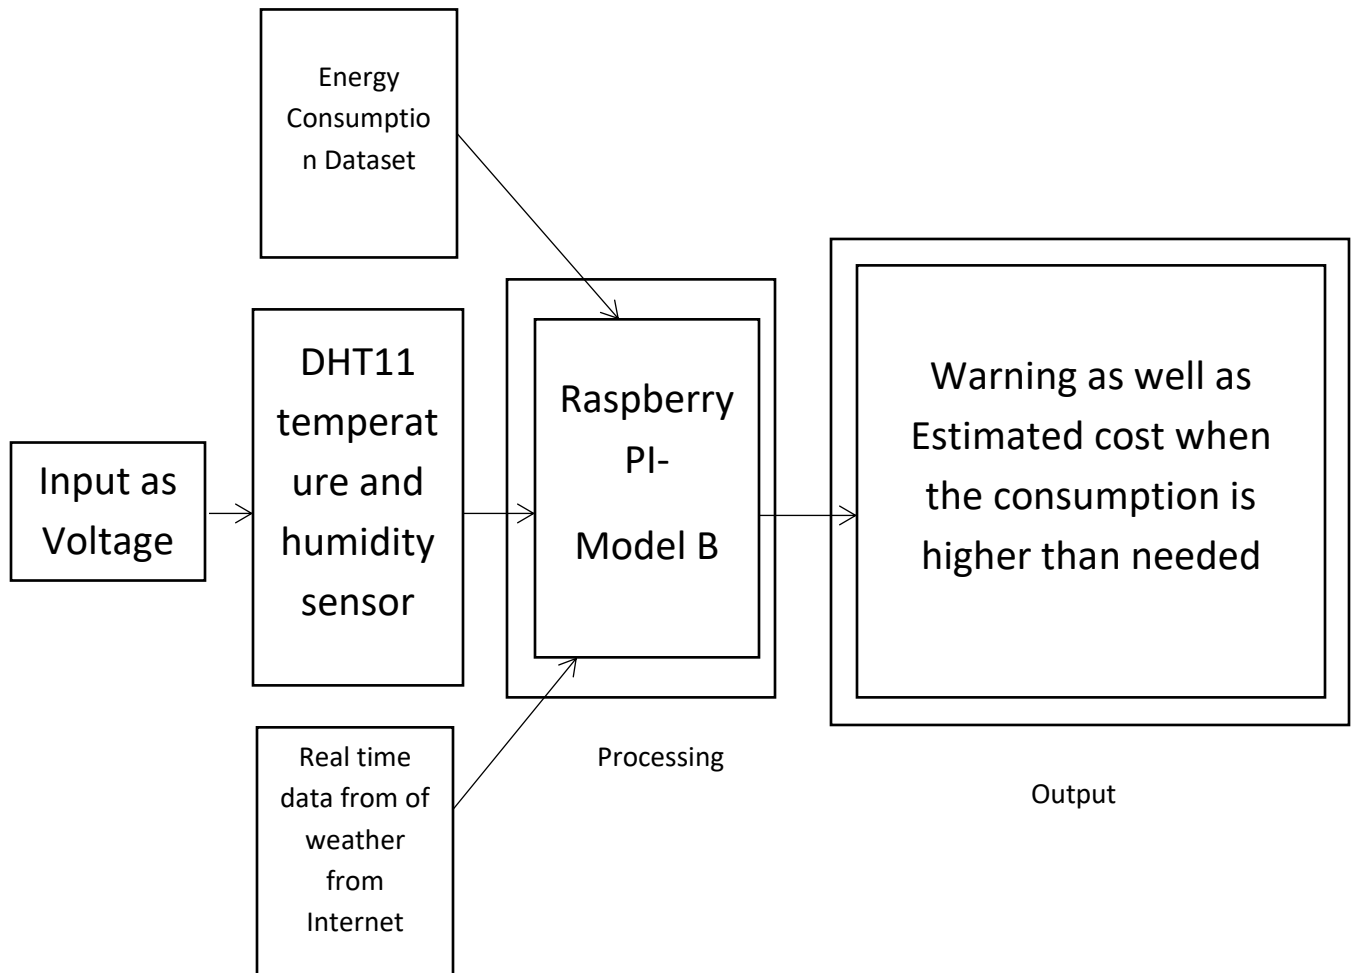

Figure 1: Block diagram of Intelligent Electricity Consumption Monitoring System
1. Figure 1: Block diagram of Intelligent Electricity Consumption Monitoring System